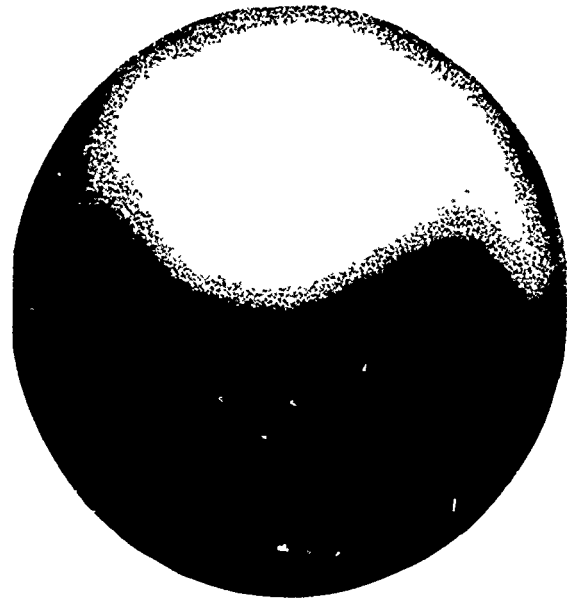

Figure 4-10. Rendering a sphere.
**Basic Rendering Technique.** To show the basic steps used in rendering an illustration by airbrush, using transparent wash, let's go over the steps used in rendering the sphere, shown in figure 4-10, as if you were airbrushing it: